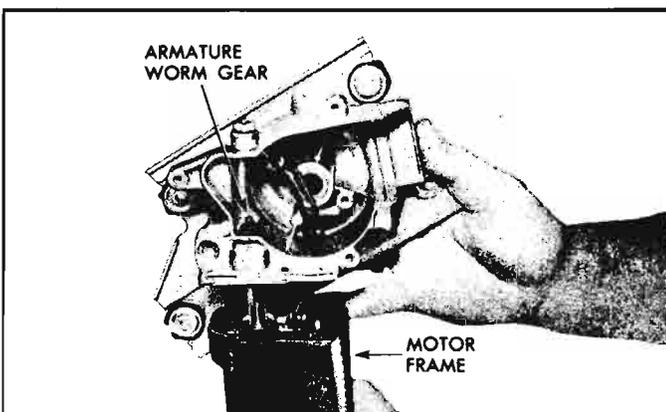

Fig. 8-130—Removing Gear Box
4. Holding the wiper as shown in Figure 8-130, lift gear housing away from motor frame until it clears the armature worm.
7. Lift brush plate and circuit breaker assembly (fig. 8-130) away from frame and unsolder leads as required.